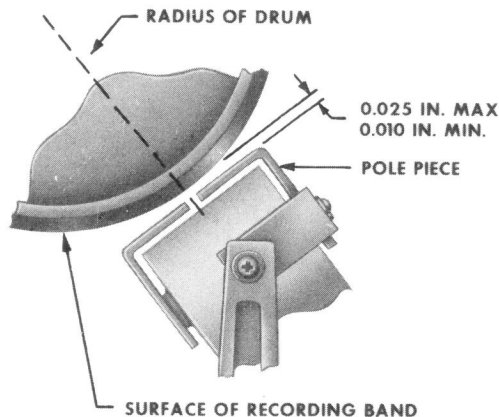

Fig. 12—Erase Coil Clearance
- 3.24 Erase Coil (Fig. 12):** The erase coil assembly shall be so positioned that the central plane of the pole piece gap is radial with respect to the recording band. Gauge by eye.